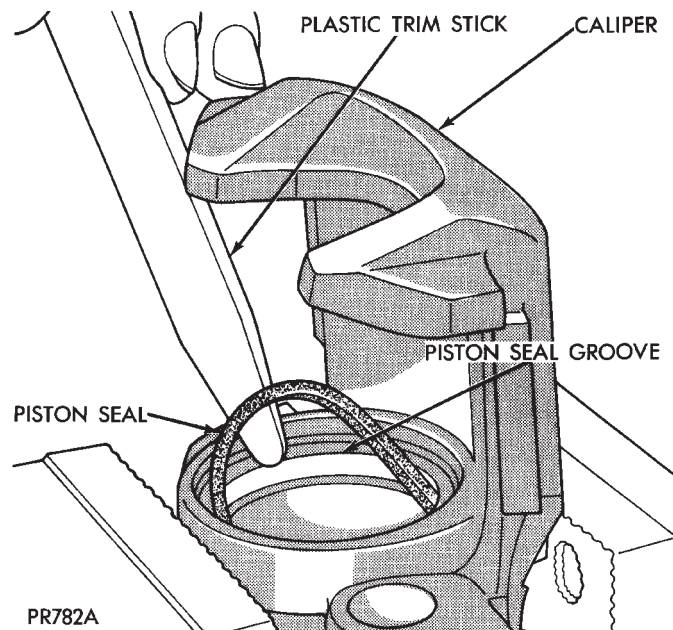

Fig. 172 Removing Piston Seal From Caliper
(8) Using a soft tool, such as a plastic trim stick, work piston seal out of its groove in caliper piston bore (Fig. 172). Discard old seal. **Do not use a screw driver or other metal tool for this operation, because of the possibility of scratching piston bore or burring edges of seal groove.**